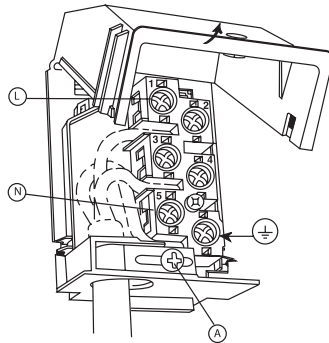

fig.13
- Open the junction box (see fig. 13).